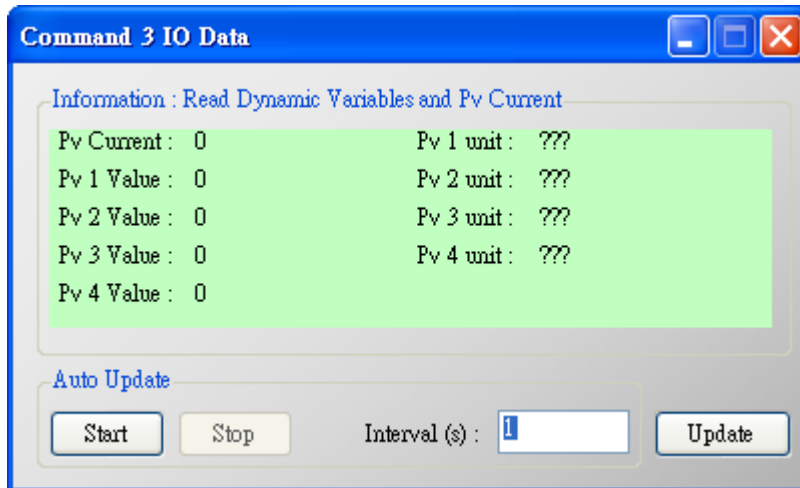

Figure 2-7 The I/O Data screen of the “Default CMD(3)” => NG
(7) The I/O Data of the “Default CMD(3)” is **NG** like Figure 2-7.